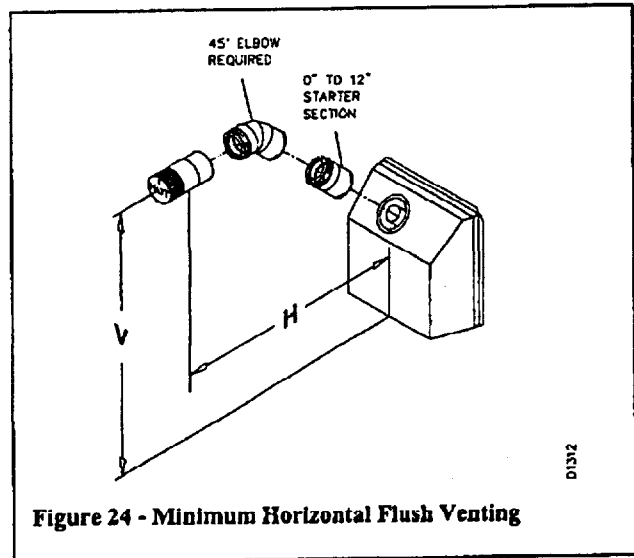

Figure 24 - Minimum Horizontal Flush Venting
Your DESA direct-vent fireplace has been tested for a maximum of 14" straight horizontal extension using one 45° elbow and 12" of extension at the vent collar, (see figure 24 on page 11). Walls up to 11" thickness can be accommodated when using a round slip-fit termination. Any horizontal application longer than 12" must provide a minimum of one (1) foot of vertical rise for every three (3) feet of horizontal run. Depending on the number of elbows used, the maximum amount of horizontal run is 20' with 7' of vertical rise (see Installation for Horizontal Termination, page 8). The maximum straight vertical rise is 30' (see Installation for Vertical Termination, page 12).
Figures 24 through 27 show different configurations for venting with horizontal termination. Each figure includes a chart with vertical minimum/maximum and horizontal maximum dimensions, which must be met. All connections must be sealed with high temperature silicone sealant as specified in the second warning statement on page 7. All horizontal terminations require 1/4" rise per 12" of horizontal run. Therefore, you must add 1/4" of vertical height (V) in the following tables for each foot of horizontal run (H).